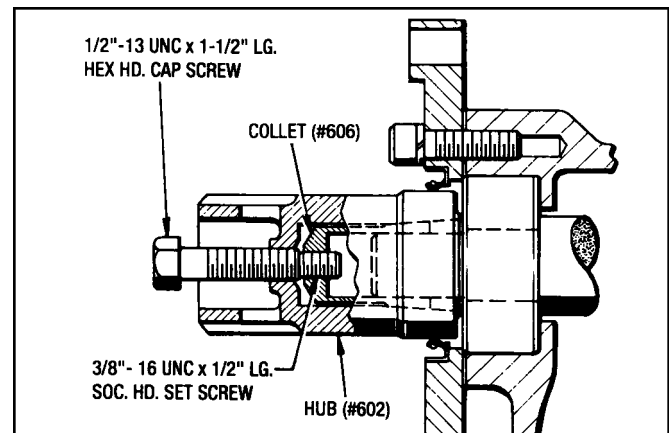

Figure 7.6 - Brake Collet & Hub Disassembly
1. Remove (2) Screws (#652) and (2) Lockwashers (#627) from the front of the Brake Unit and slide the Brake Unit off of the Hub (#602).
3. Take the Hex Hd. Cap Screw (#651) and Seal Washer (#630) out of the end of the Hub (#602). Screw a 3/8" 16 UNC x 1/2" Lg. Soc. Set Screw into the Collet (#606). Then screw a 1/2" 13 UNC x 1-1/2" Lg. Hex Hd. Cap Screw into the Hub until it contacts the Set Screw, continue turning the Hex Hd. Screw until the Hub (#602) is forced off of the Collet (#606). (See Figure 7.6).